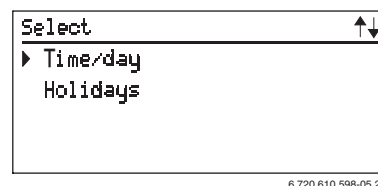

Fig. 37 Submenu: Time/day
- Press the  button to confirm the setting and return to the previous menu (Fig. 37 page 28).